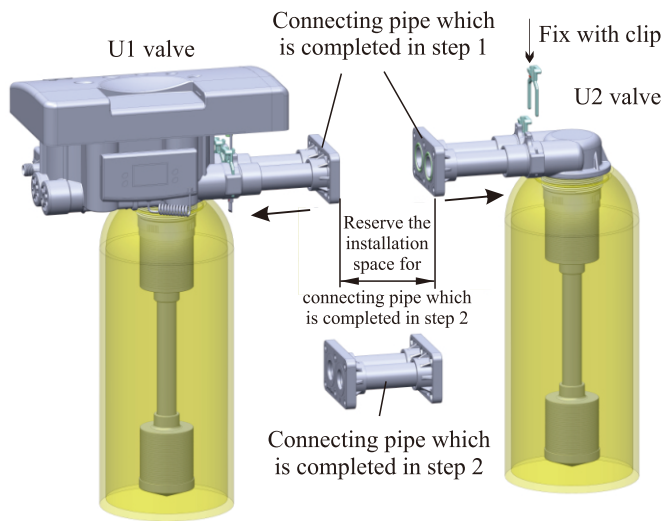

Figure 2-1-3
3. As Figure 2-1-3 shows, insert the connecting pipe which is completed in step 1 into U1 valve and U2 valve, and fix with clip. **(The installation space shall be reserved for the connecting pipe which is completed in Step 2).**